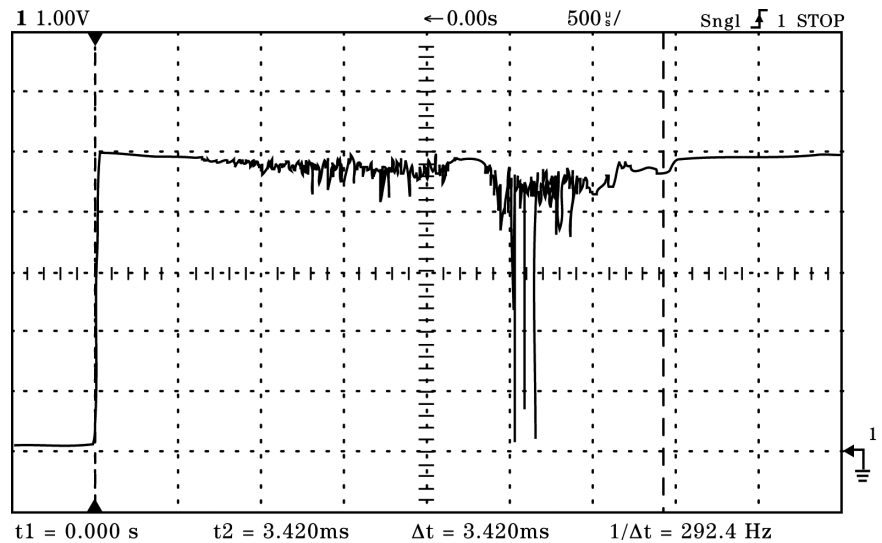

Figure 1- Switch bounce (going from off to on)
- 5) Adjust the **Time/Div** control on the front panel for a display that shows the initial switch from 0 V to 5 V, and all of the bounces, until steady state (constant 5 V) is reached (see Figure 1 for a typical display).